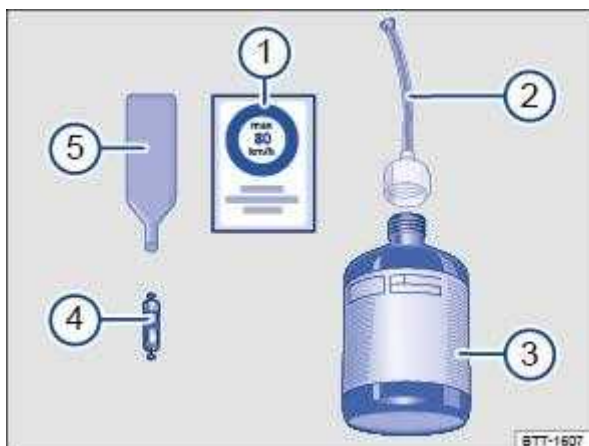

Fig. 208 Illustration: components in the breakdown set
The breakdown set consists of the following components ⇒ Fig. 208 :
- ① On/off switch
- ② Air bleed screw
- ③ Tyre pressure display
- ④ Tyre filler hose
- ⑤ 12-volt plug
- ⑥ Air compressor
There is a slot on the lower end of the valve core extractor ⇒ Fig. 208 ⑤ for the valve core. This is required for extracting the valve core from the tyre valve and then screwing it back in. This also applies to the spare valve core ④.
Use the valve core extractor ⇒ Fig. 208⑤ to unscrew the valve core from the tyre valve. Place the core on a clean surface.
Shake the tyre filler bottle ⇒ Fig. 208③ vigorously to and fro several times.
Screw the filler hose ⇒ Fig. 208② tightly onto the tyre filler bottle in a clockwise direction. The plastic foil on the closure is pierced automatically.
Remove the plug from the filler hose ⇒ Fig. 208② and place the open end fully on the tyre valve.
Use the valve core extractor ⇒ Fig. 208⑤ to screw the valve core back into the tyre valve.